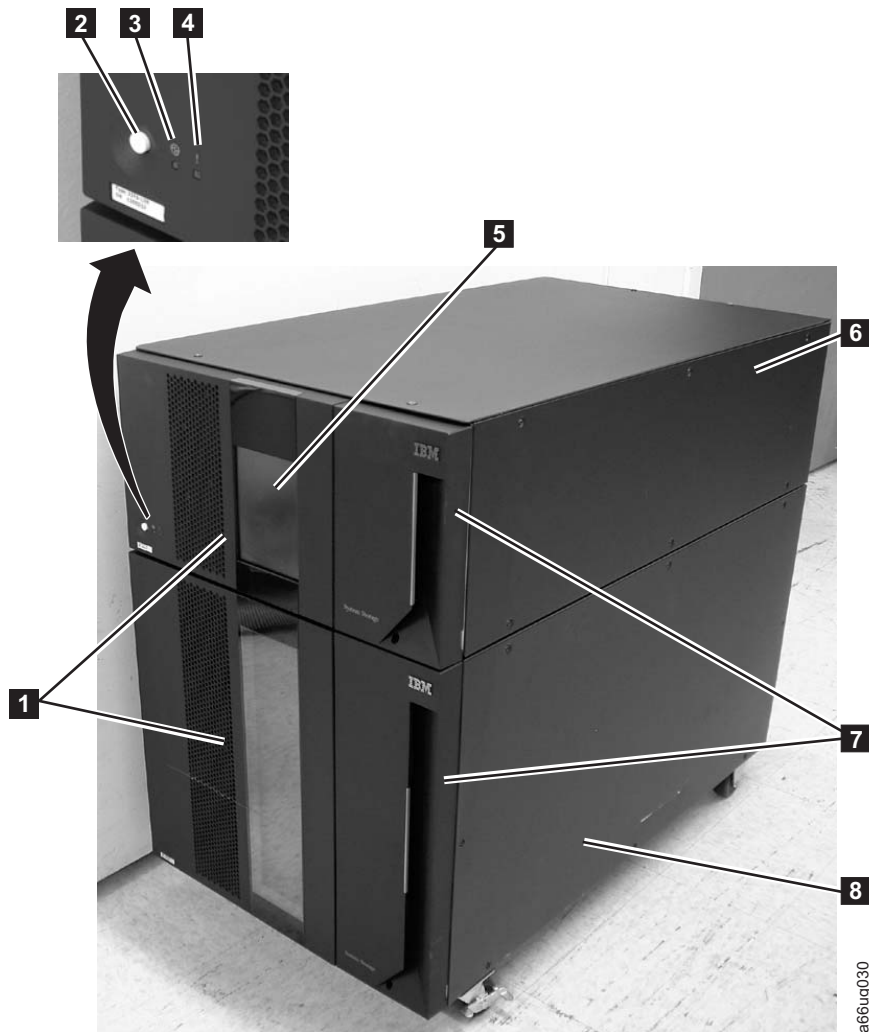

Figure 1-1. Front panel of a 14U library
All library configurations include the control module (**6** in Figure 1-1 on page 1-2). The control module contains the robotics, library control blade (LCB), and touchscreen display. The control module also contains an I/O station, fixed storage slots, tape drives, and at least one power supply.
Each 9U expansion module (**8** in Figure 1-1 on page 1-2) is a supplementary module that is attached to the 5U Control Module. Like the control module, the expansion modules provide fixed storage slots, tape drive slots, and power supply slots. The I/O station in an expansion module can be configured as storage.
I/O stations (**7** in Figure 1-1 on page 1-2) are on the front panel of the library and enable the importing and exporting of cartridges without interrupting normal library operations. A control module I/O station has a capacity of six cartridges. A 9U expansion module I/O station has a capacity of 12 cartridges.
This door is locked by the I/O station. To open the access door (**1** in Figure 1-1 on page 1-2), you must first open the I/O station.
The Operator Panel (**5** in Figure 1-1 on page 1-2) is the touchscreen display device that is located on the access door of the control module. Library operations and service functions are completed from this screen.
Pressing **Power** (**2** in Figure 1-1 on page 1-2) on the front panel of a control module turns the picker and Operator Panel ON or OFF. However, power is still applied to the power supplies. The **Power** is used during library shutdown and to manually reboot the library.
- Green power ON LED (**3** in Figure 1-1 on page 1-2): When lit, this LED indicates that the library power is ON.
- Amber Operator Intervention Alert LED (**4** in Figure 1-1 on page 1-2): When lit, this LED indicates that there is a Library, Drives, or Media Operator Intervention available. To access the Operator Intervention, select **Tools > Operator Intervention** from the Operator Panel.